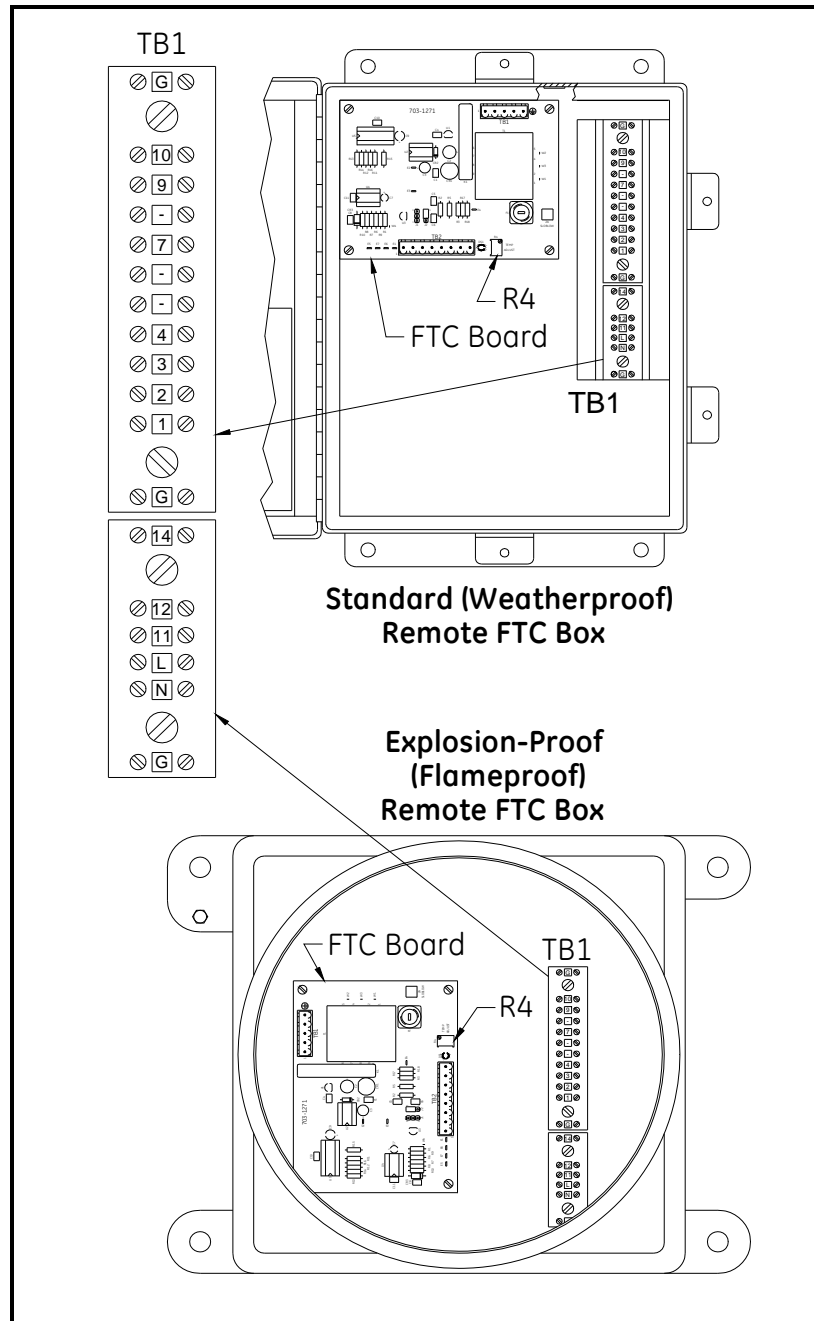

Figure 24: FTC Board (R4) and TB1 Locations
See Figure 24 on page 46 for the location of the terminal blocks.
**Note:** *For an FGA 300V(X) analyzer operating at any other temperature, refer to Appendix C, The Nernst Equation, for details on converting the known oxygen concentration into the expected oxygen sensor millivolt output reading.*
4. If necessary, adjust the sensor furnace *operating temperature* using potentiometer R4 on the FTC board in the following manner (see Figure 24 on page 46 for the location of R4):